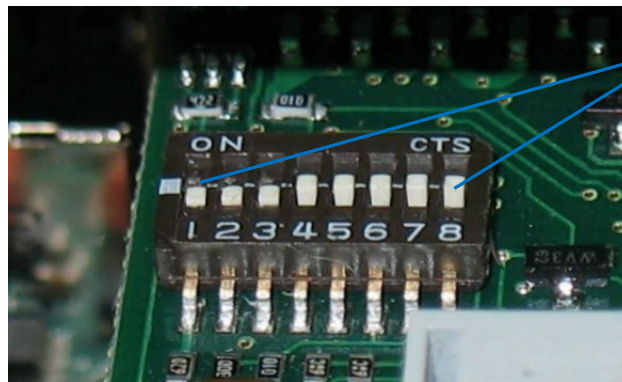

Fig. 32: DIP1-DIP8 switches (shown with factory settings)
2. The DIP switches for setting the SJA1000 base address, SJA interrupt and NVRAM operation mode are located on the LPctoCAN adapter (see Fig. 32).